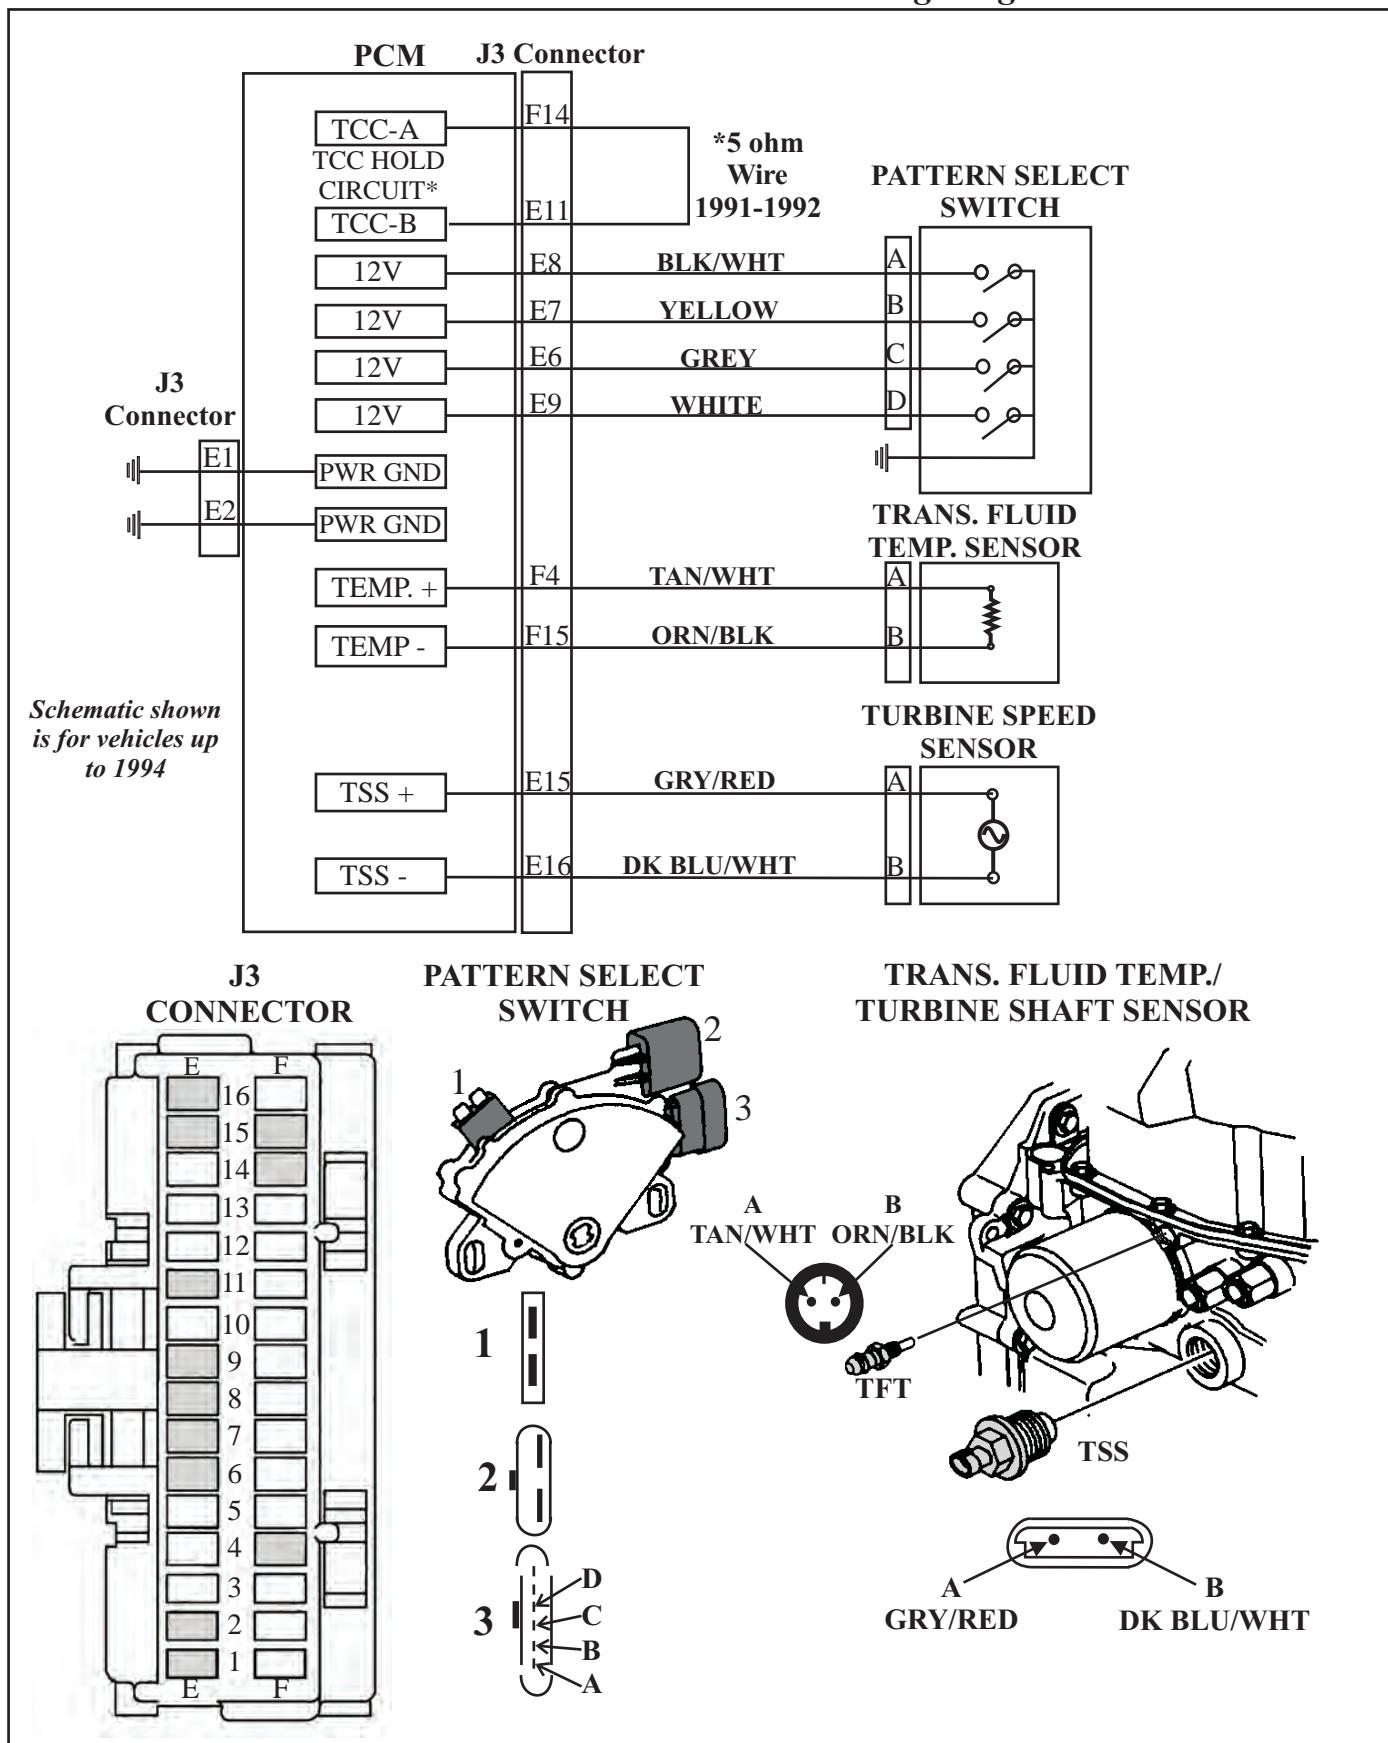

Figure 27
The TCC Hold Circuit shown in Figure 27 (*5 ohm wire circuit) is a 1991 and 1992 model year feature only. The amount of electrical current required to *energize* an actuator is greater than the amount required to *hold* an actuator in position. The Hold Mode is a feature built into the PCM that reduces current draw of the TCC actuator when TCC is being held on. After TCC is applied a driver built into the PCM is opened and an actuator ground path is provided inside the PCM through the 5 ohm resistance wire.
To adjust the Pattern Select Switch, put the selector lever in the D4 position. Do not start the vehicle. Place an ohm meter onto the Pattern Select Switch as shown in Figure 29 (The terminal contacts to be used is in connector 1 shown in Figure 27 on page 22). Rotate the switch until the ohm meter reads continuity. Once adjusted, secure the Pattern Select Switch.
The Turbine Speed Sensor (TSS) is a permanent magnet (PM) generator mounted near the pressure filter on the transaxle case (See Figure 27). The PM generator produces a pulsing voltage (AC) whenever turbine shaft speed is above 250 rpm. These pulses occur eight times per each turbine shaft revolution and is converted to an RPM signal inside the PCM. These pulses can be viewed with a DVOM set to Hz. If a DVOM is set on AC volts, voltage would increase with speed. If this sensor is checked with an ohm setting, the resistance value should be between 800 to 1600 ohms. The Turbine RPM signal can also be checked and viewed through a hand held scanner.